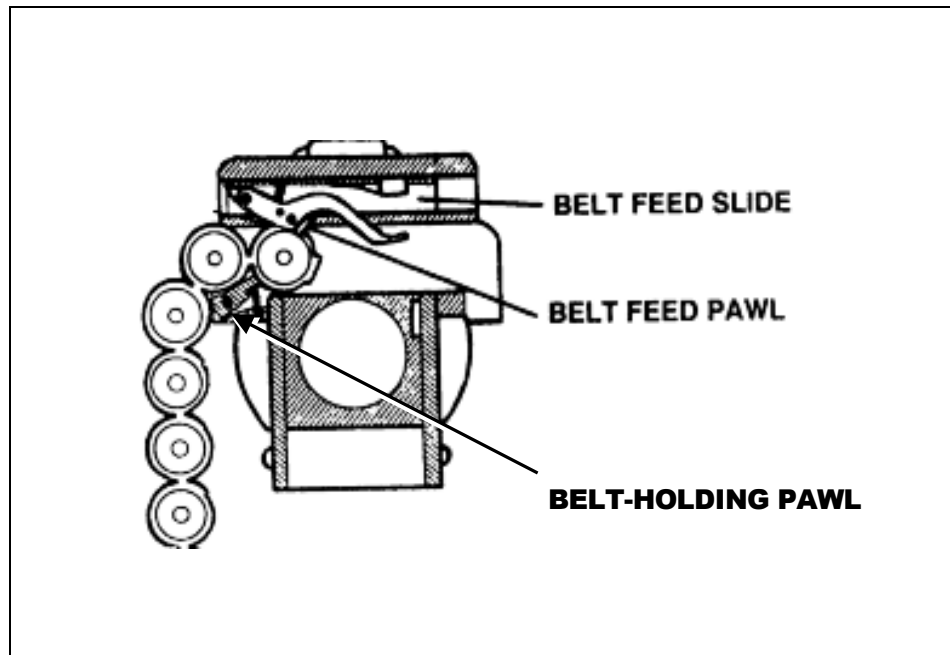

Figure 3-4. Feeding--step 1.
a. **Feeding.** Feeding is the act of placing a cartridge in the receiver, approximately in back of the barrel, ready for chambering. When the bolt is fully forward and the top is closed, the ammunition belt is held in the feedway by the belt-holding pawl (Figure 3-4).